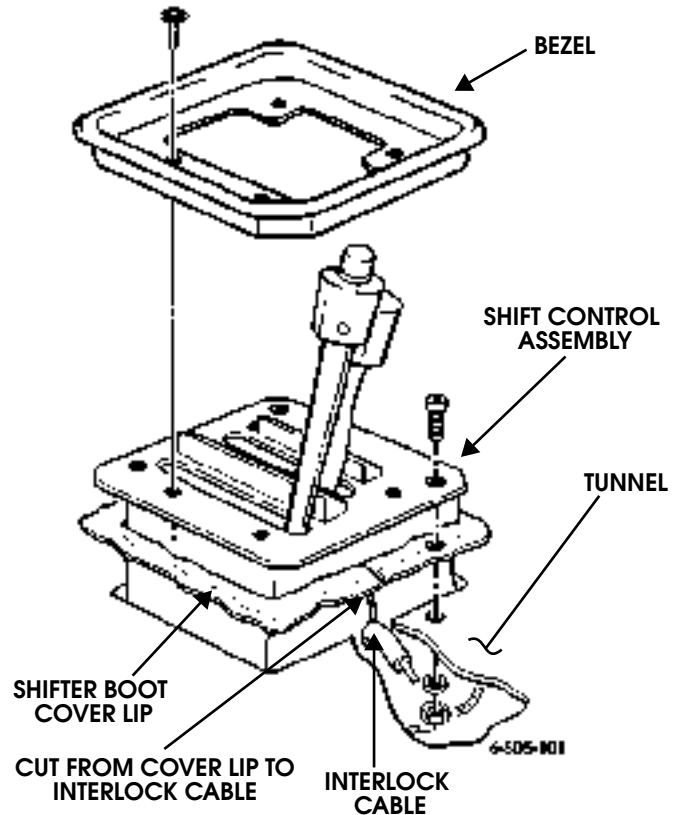

Figure 5-60: Cutting Shifter Boot Cover
4. Remove bezel from shift control assembly (Figure 5-60).
6. Cut shifter boot cover from the lip to the interlock cable hole as shown (Figure 5-60).